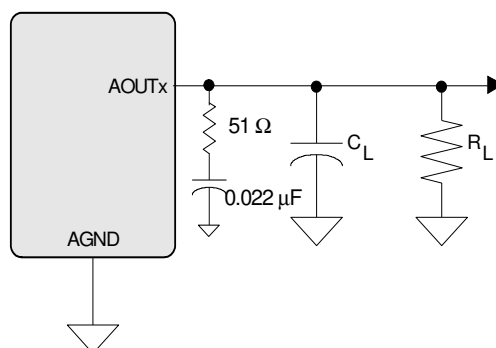

Figure 2. Headphone Output Test Load
5. See Figure 2. R_L and C_L reflect the recommended minimum resistance and maximum capacitance required for the internal op-amp's stability and signal integrity. In this circuit topology, C_L will effectively move the band-limiting pole of the amp in the output stage. Increasing this value beyond the recommended 150 pF can cause the internal op-amp to become unstable.
Test conditions (unless otherwise specified): Input test signal is a full-scale 997 Hz sine wave; Sample Frequency = 48 kHz; Measurement Bandwidth is 20 Hz to 20 kHz; Test load $R_L = 16 \Omega$, $C_L = 10 \text{ pF}$ (see Figure 2); "Required Initialization Settings" on page 32 written on power up.
Test conditions (unless otherwise specified): Input test signal is a full-scale 997 Hz sine wave; measurement bandwidth is 20 Hz to 20 kHz; Sample Frequency = 48 kHz; Test load $R_L = 10\text{ k}\Omega$, $C_L = 10\text{ pF}$ (see Figure 2); “Required Initialization Settings” on page 32 written on power up.